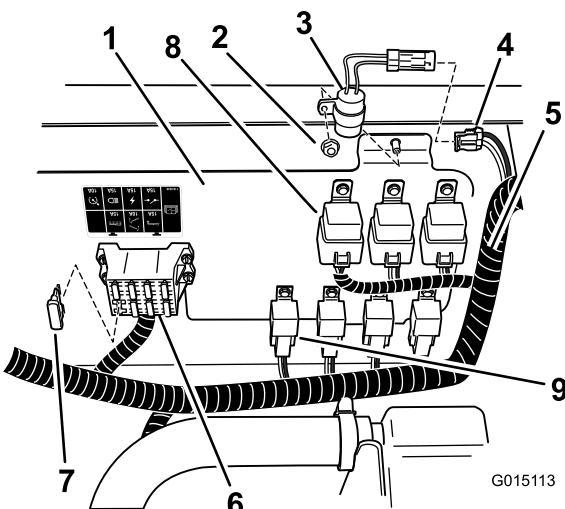

Figure 28
2. Locate the delay timer in loose parts, and install it at the location shown in Figure 28.
4. Connect the timer to the main harness at this location (Figure 28).
5. Install a 40-amp fuse to the open slot in the fuse block as shown in Figure 28.